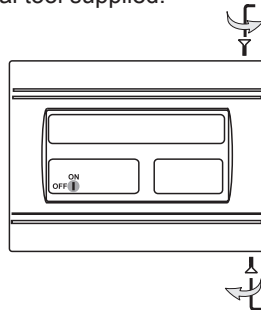

Figure 2.
- Undo the two secure bolts - Figure 2. Use the instrument supplied for the purpose in the set (hexagonal tool No. 2).